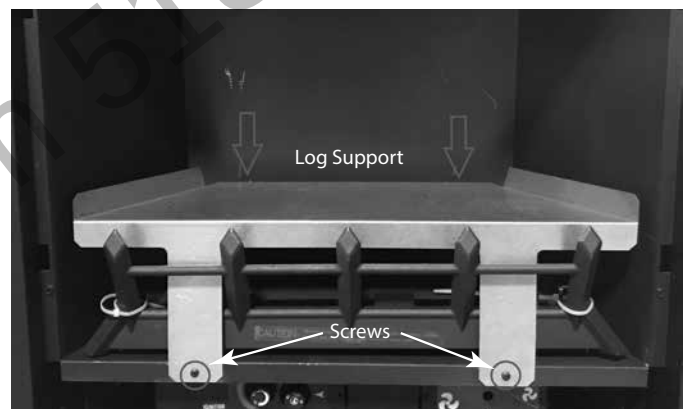

Figure 16a
4. Remove and discard logs support and screws. *Figure 16a.*